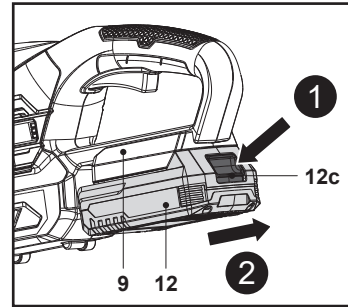

Fig. 4
- Press the release button (12c) and remove the battery pack (12) from the battery docking port (9) (Fig. 4).